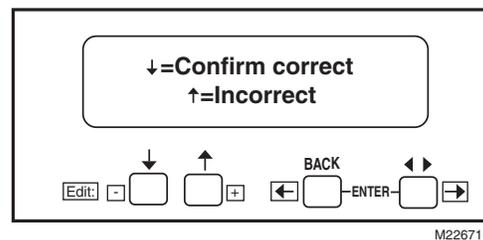

Fig. 32. Confirmation Correct screen.
- 22. Press the down arrow to confirm the correct post-purge time. “Getting Data” will be displayed until the screen in Fig. 32 appears.